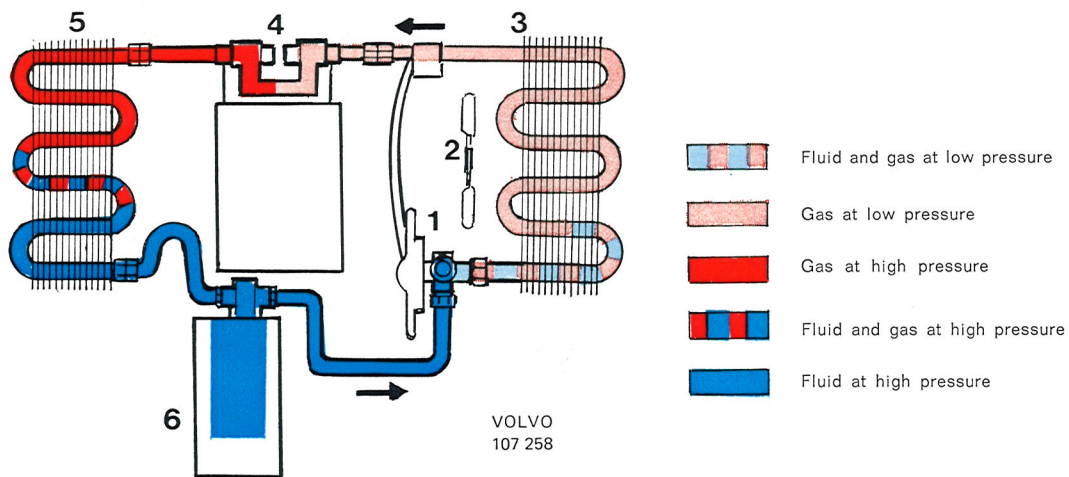

Fig. 8-49. Refrigerant circulation in air conditioning system
In order to explain the cooling process that takes place, it is suitable to start with the thermostatic expansion valve, usually called the TEV (1, Fig. 8-49). Before the TEV, the refrigerant is in liquid form and at high pressure. When it flows into the inlet pipe of the evaporator, where there is lower pressure (created by the suction effect of the compressor), the temperature of the refrigerant immediately drops and it is converted to partly vapour, partly fluid. Since the boiling point of the refrigerant is at -32°C (-26°F) at normal air pressure, it starts to boil and changes to vapor in the evaporator coil (3), while it absorbs heat from the warm air which the fan motor (2) blows round the pipeline. Due to the fact that heat is absorbed from the air, it becomes colder. It is this cold air which is blown out through the air ducts into the compartment. In the evaporator coil, the latent heat has caused the refrigerant to convert